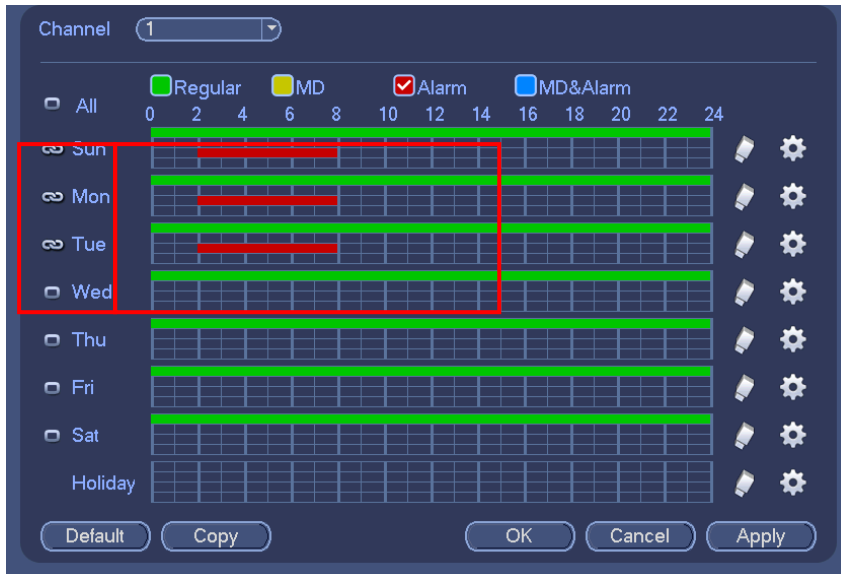

Figure 4-170
- ✧ Please draw manually to set record period. There are six periods in one day. See Figure 4-170.